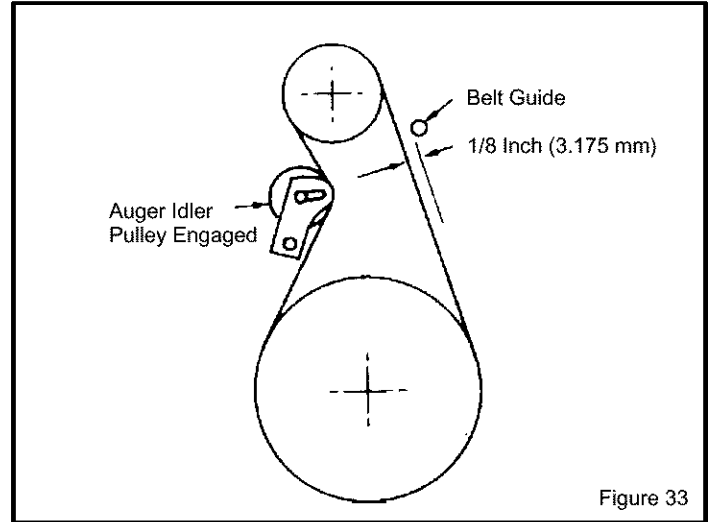

Figure 33
3. Measure the distance between the belt guide and belt. The distance should be 1/8 inch (3.175 mm) for guide. See Figure 33.